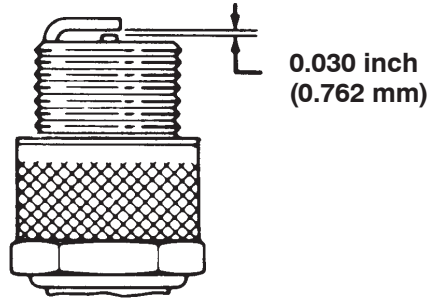

Figure 41
- Set the air gap between the center and side of the electrodes at 0.030 inch (0.762 mm) (Fig. 41). Install the correctly gapped spark plug and tighten the plug to 14 ft.-lb. (20 N·m).